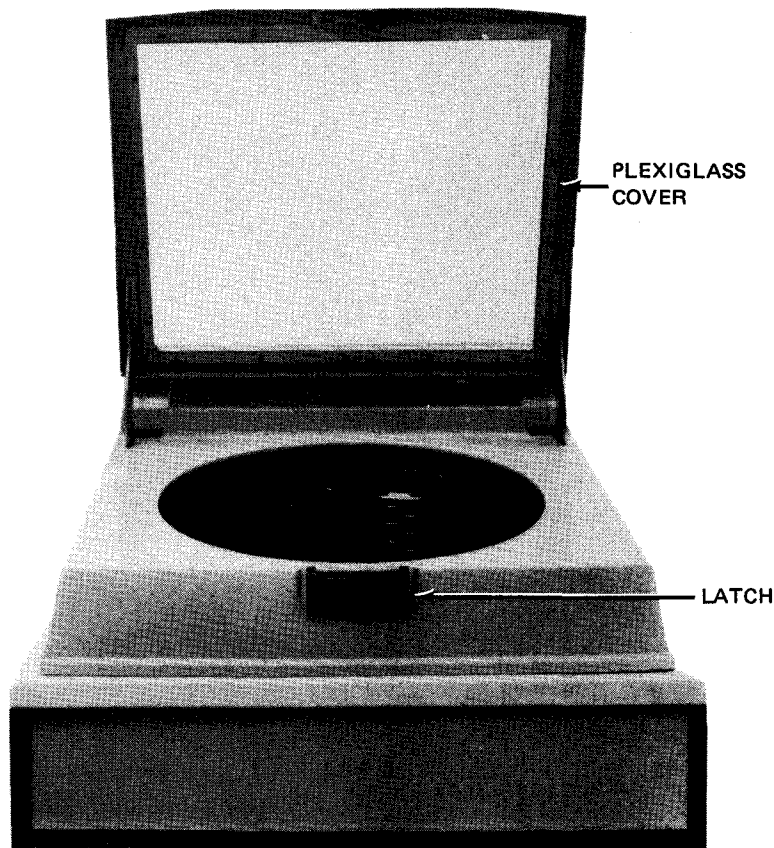

Figure 3-9. Disc Drive Unit With Plexiglass Cover Open
2. Open the spring-loaded plexiglass cover by pressing down the latch on the front of the shroud (Figure 3-9).